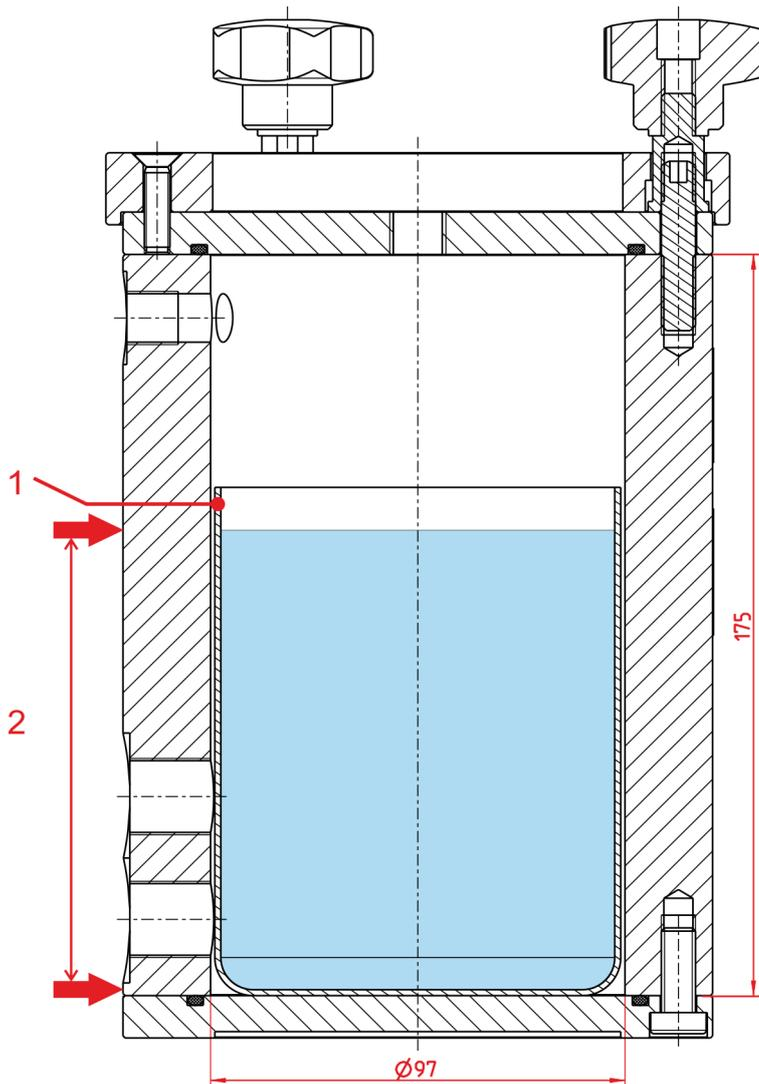

Fig. 4: Maximum filling
The vessel may be filled only up to maximum 1 cm below the inner vessel edge (Fig. 4, item 1 and item 2), in order to avoid the product flowing back into the pressure pipeline system!